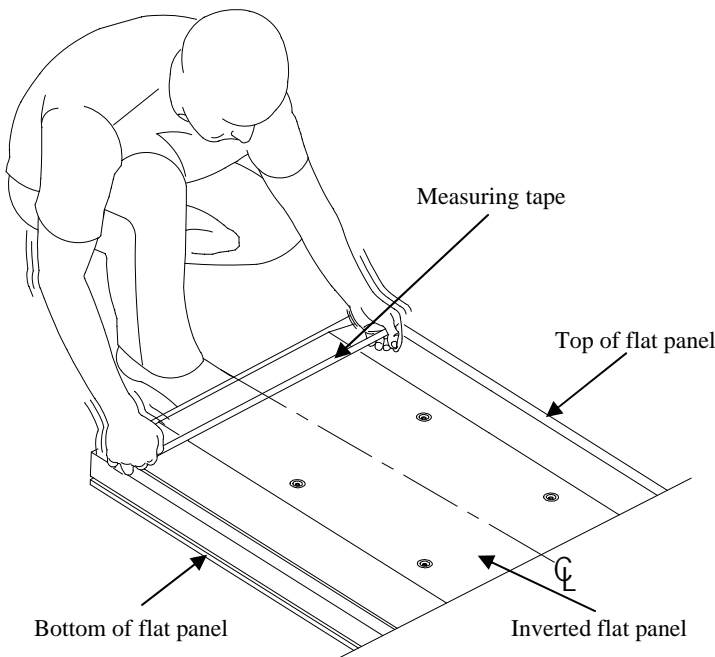

Figure 4
1. Once the flat panel is inverted, use a measuring tape to find the center of your flat panel measuring from outside to outside of the chassis (Figure 4).